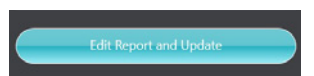

Figure 14
3. To save any edits that have been made, touch **EDIT REPORT AND UPDATE**. Figure 14